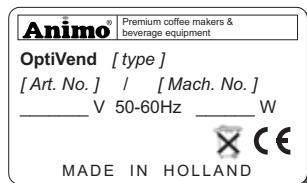

Fig. 6
- Check if the details on the type plate (fig. 6) correspond.